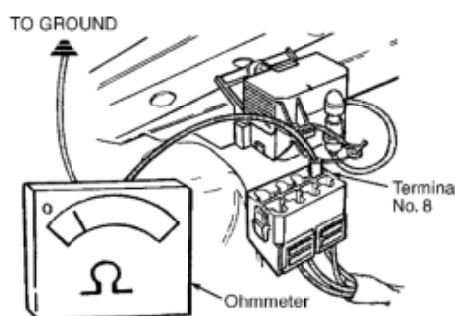

Fig. 6: Checking Resistance Between Terminal No. 8 & Ground
2) Turn ignition off. Use an ohmmeter to measure resistance between connector terminal No. 8 and ground. See Fig. 6. If ohmmeter indicates approximately zero ohms, go to next step. If not, check wiring and connectors for an open or short circuit.